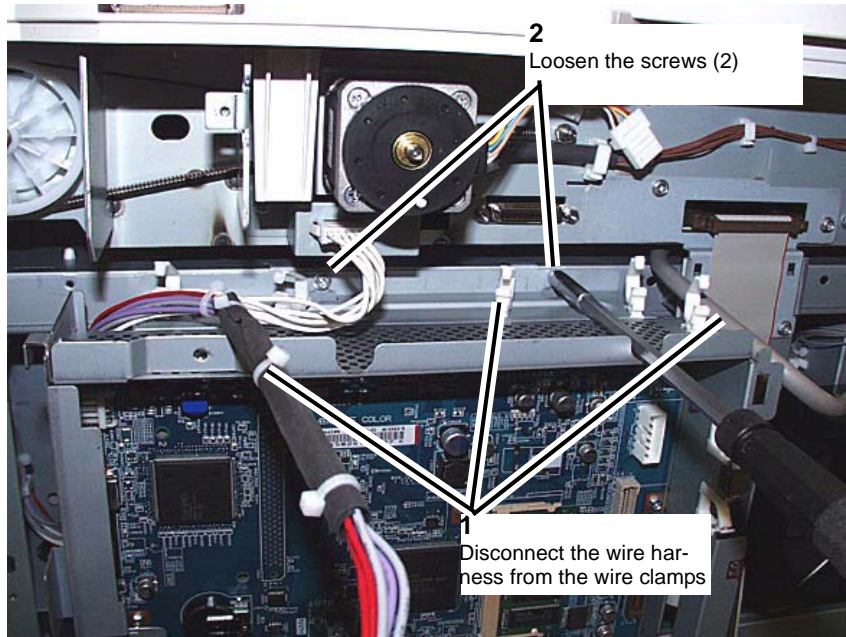

Figure 7 Loosen the upper screws (2) from the ESS PWB Chassis
9. Loosen the upper screws (2) from the ESS PWB Chassis. (Figure 7)